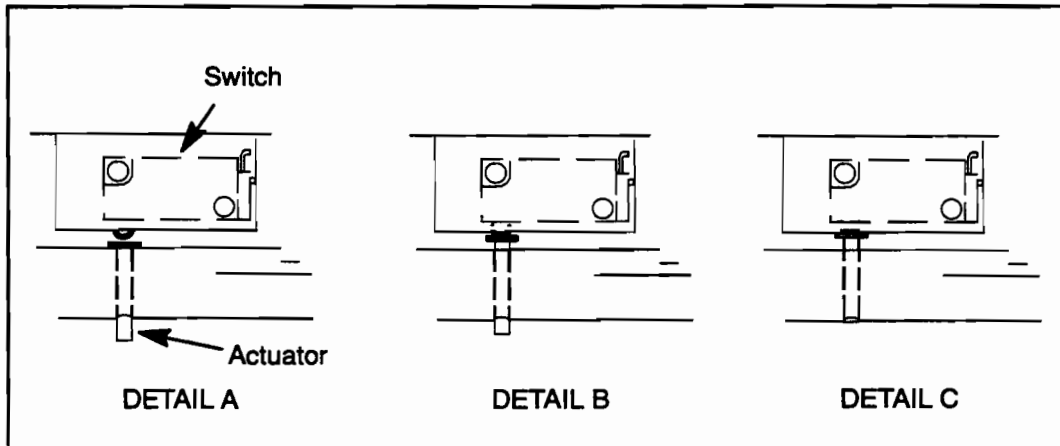

Figure 7-11. Out-of-Media Switch
1. Switch the plotter line switch to OFF (O).
4. Locate the Out-of-Media actuator at the right of the upper frame. See Figure 7-11, Detail A.
5. Listening carefully, push up on the switch actuator. The switch should “click” before the actuator has been pushed fully up into the shaft (See Figure 7-11, Detail B).
6. There must be sufficient play in the switch so that the actuator may be pushed up flush with the shaft. See Figure 7-11, Detail C.